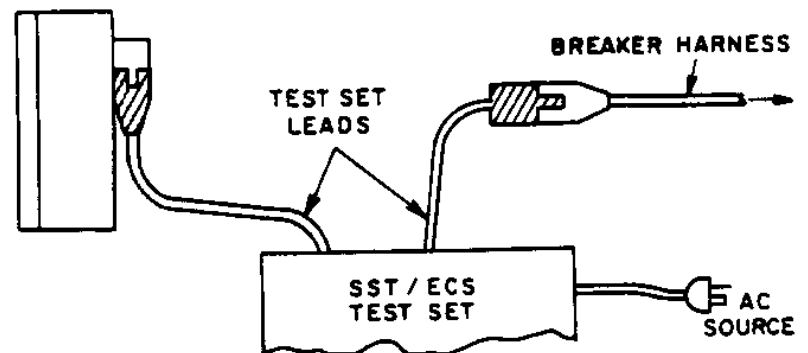

Fig. 4. Connection for Complete System test
3. The test set male connector lead need not be connected to the breaker harness for "Programmer Only" testing. However, the Fig. 4 connection should be used if "Complete System" tests are to be run also.
"Complete System" Test - Mode "B" (See Fig. 4)